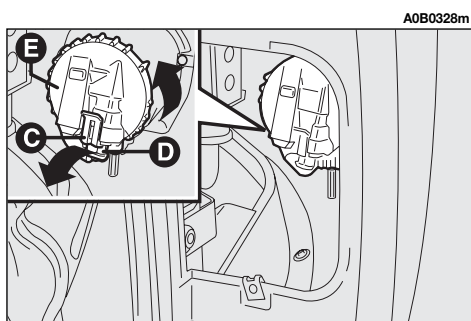

fig. 34
- Release catch (**C-fig. 34**) and disconnect connector (**D**) from the light unit.
— Refit cover (**E-fig. 34**) and reconnect connector (**D-fig. 34**) to the light unit.